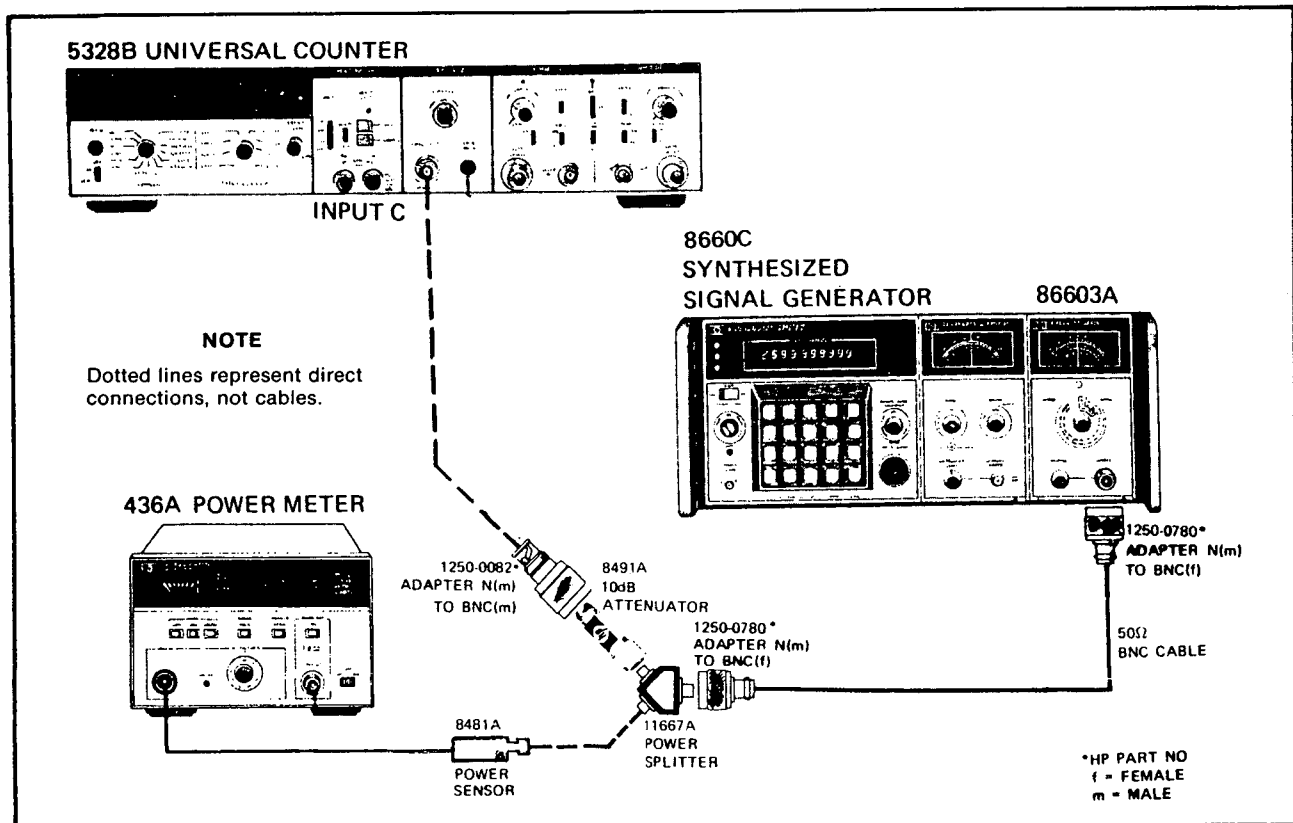

Figure 4-5. Test Setup for Channel "C"
- a. Set up equipment for this test as shown in Figure 4-5.